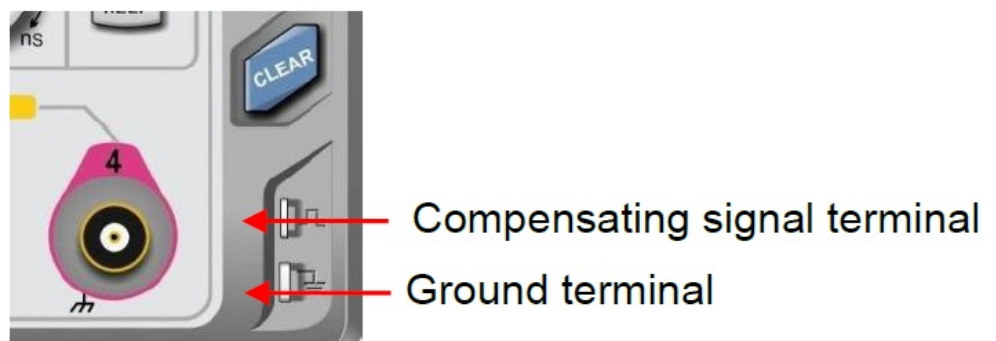

Figure 1 Compensating signal and Ground terminal
- Use the probe's BNC port to connect to the channel 1 BNC port of the oscilloscope. Connect the probe to the "Compensating signal port" and the ground clip is connected to the "Ground terminal" below the compensating signal port as shown in Figure 1.